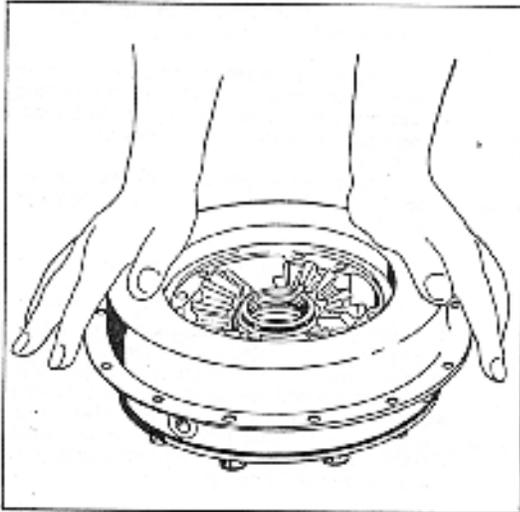

Figure 28. Installing Clutch Cylinders on Bevel Gear Carrier.
- B) With forward side of bevel gear carrier up, press cylinder on by hand (see figure 28).